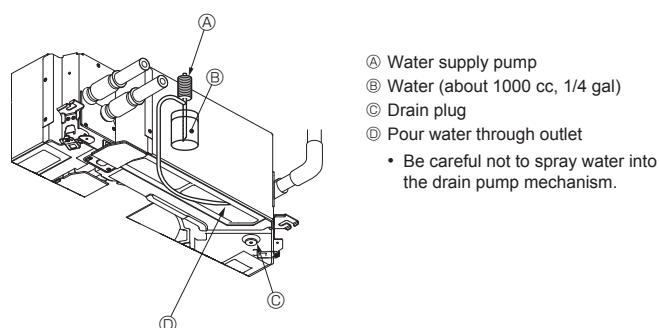

Fig. 7-5
7.4. Check of drainage (Fig. 7-5)